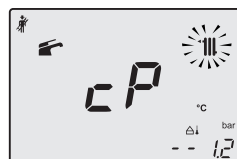

Fig. 9.24
- Press key 18 to vary the output in chimney sweep mode: when the LCD display displays the letters **CP** that alternate with the heating water temperature value (e.g.78), the "chimney sweep function" is at maximum (eventually range rated) output in heating mode (Fig. 9.24).